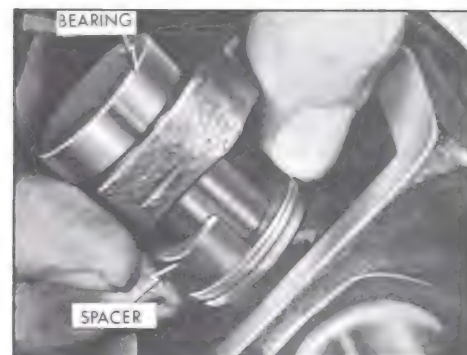

Figure 6-59—Installing Spacer
4. Release the pump and remove the propeller shaft. Install Spacer J-9522-5 over the spider journal at the space provided with bearing forced partially through the yoke. See Figure 6-59. Reposition the propeller shaft in the fixture as before and force the bearing completely out of the yoke with the added assistance of the Spacer.